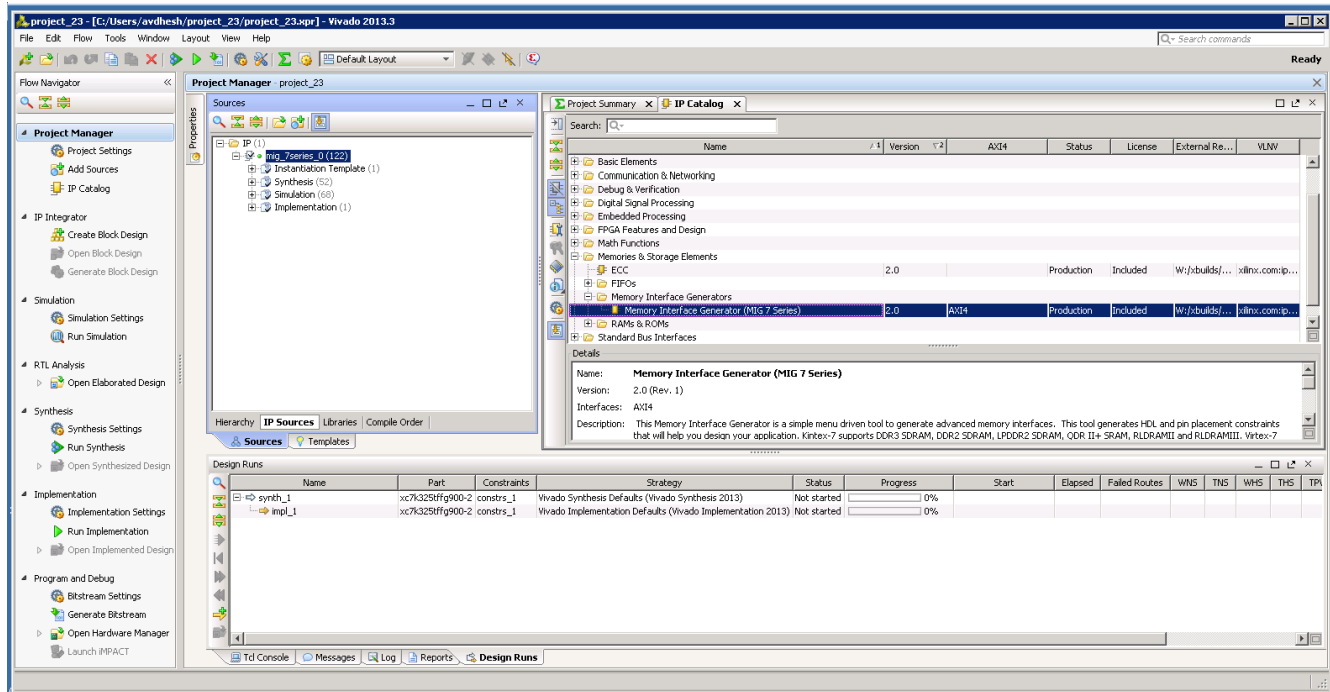

Figure 5-21: Vivado Tool Project Window (After IP Generation)
4. After generating the MIG design, the project window appears as shown in Figure 5-21.